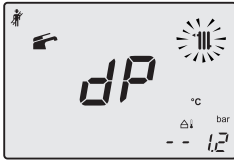

Fig. 10.25
- Press further key 17 to vary again the output in flue sweep mode: when the LCD display displays the letters **dP** that alternate with the heating water temperature value (e.g. **60**), the "flue sweep function" is at maximum output in domestic hot water mode" (Fig. 10.25).